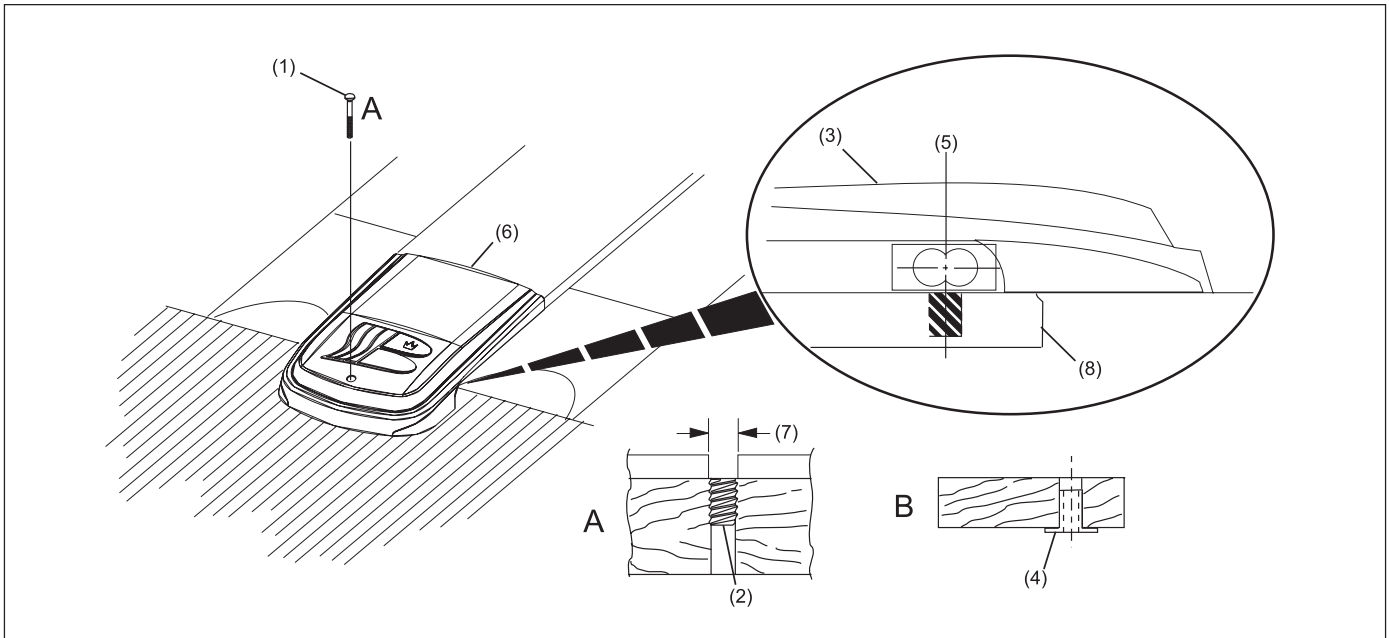

Figure 11.
5. Position the cover over the unit and trim the gutter and capping for a smooth fit and a clear opening for the optical beam to the reflector. Openings in the side of the cover should be centered on the optical sensors. Mark the mounting hole locations using the cover as a template. Drill a 1/2" diameter hole in the approach and install a Tap-Loc insert. Install a T-nut in the mounting plate. Install the cover using the hardware shown in *Figure 11*.